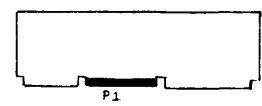
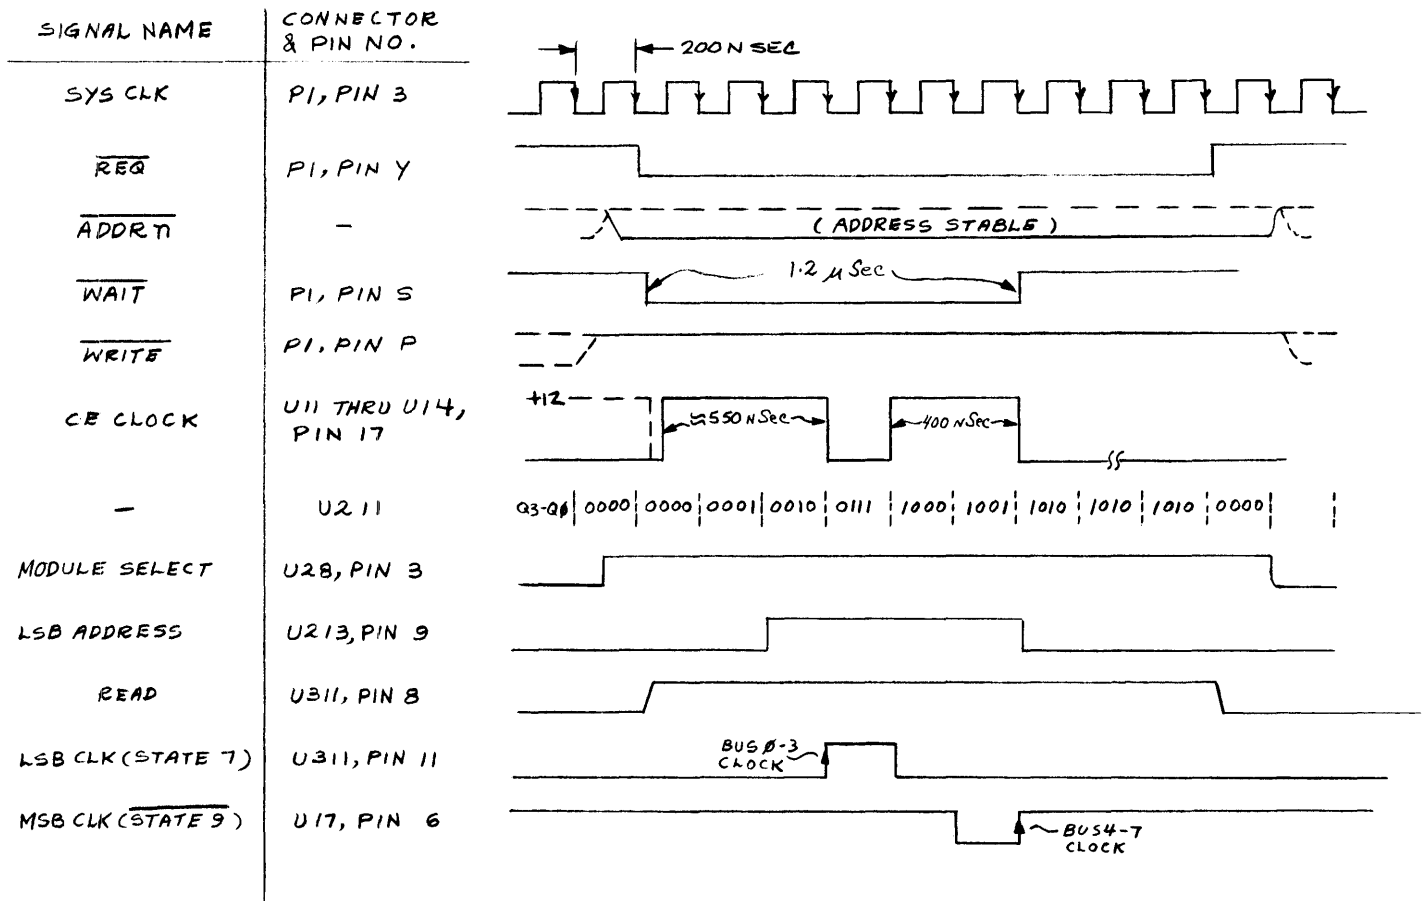
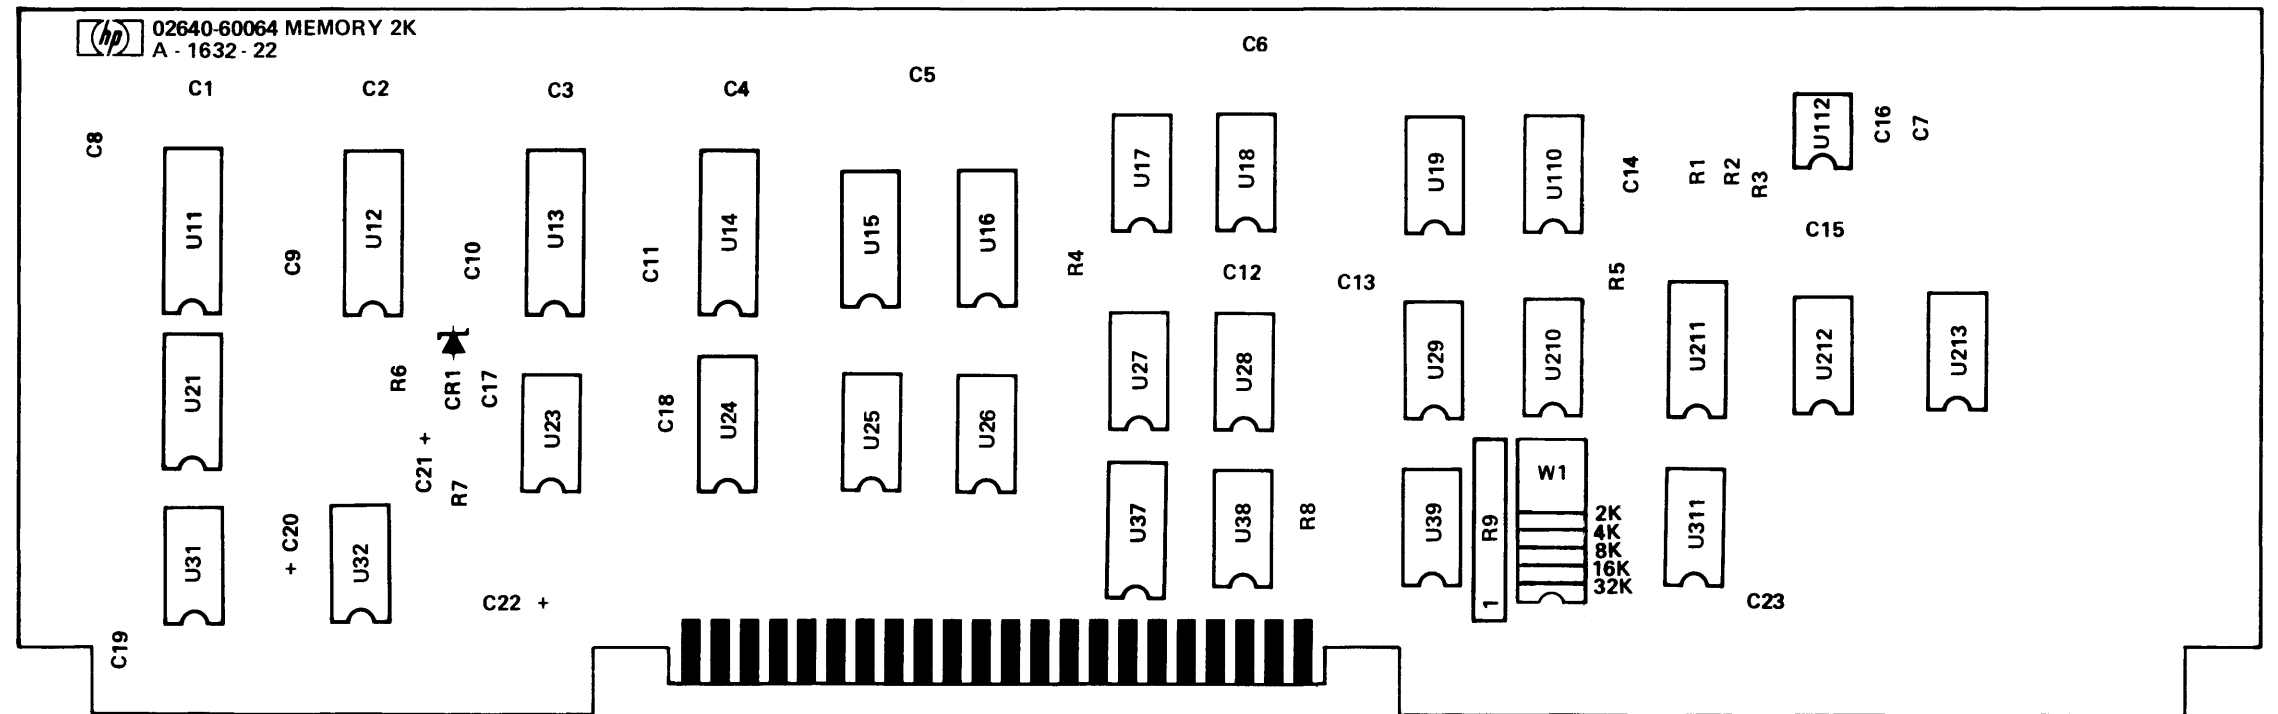

Figure 2
Figure 3
Figure 6
3.0 FUNCTIONAL DESCRIPTION. Refer to the block diagram (figure 1), schematic diagram (figure 2), timing diagrams (figures 3, 4, and 5), component location diagram (figure 6), and parts list (02640-60064) located in the appendix.
3.1.2 A read operation on the memory array requires that internal signal $\overline{R/W}$ be high and that all address inputs be stable when CE CLOCK (Chip Enable Clock) is asserted (ground to +12 volts). Internal signal Data Out (DO), is then routed to the two read registers (U15 and U16 in the multiplexing logic), which store data from the two 4-bit read operations. (Refer to figure 3 for read timing explanations.)
- 3.3.2 When the address comparator determines that the +2K Memory PCA is selected for a Module Accessed, the state counter (U211) begins a sequence which generates the timing for two memory chip read or writes and the signals to control the multiplexing. (Refer to figures 3 and 4 for typical read and write cycle timing information.) The refresh logic also uses this block to perform pseudo read cycles.